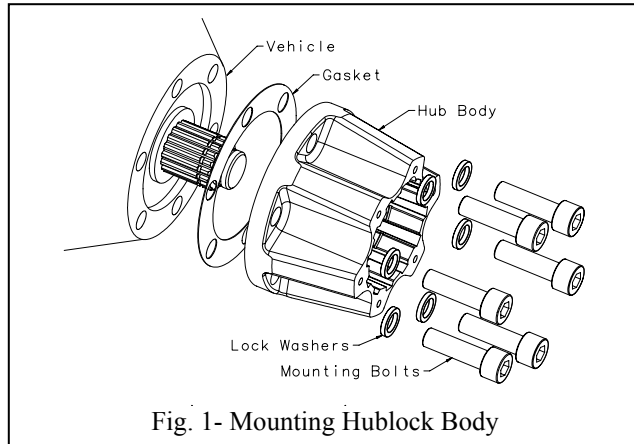

Fig. 1- Mounting Hublock Body
2. Install gasket and body assembly on wheel end (See Fig.1).